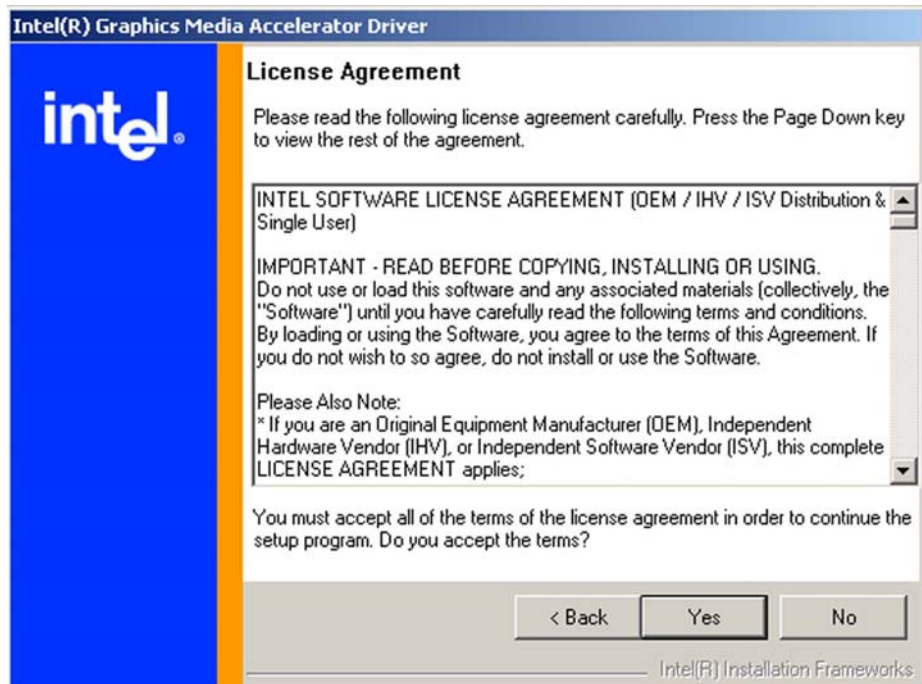

Figure 6-14: GMA Driver License Agreement
Step 3: To continue installing click "**Next**" and a license agreement shown in **Figure 6-14** appears. Read through the license agreement.
Step 4: Accept the terms and conditions stipulated in the license agreement by clicking the "Yes" button (**Figure 6-14**). The installation notice shown in **Figure 6-15** appears.